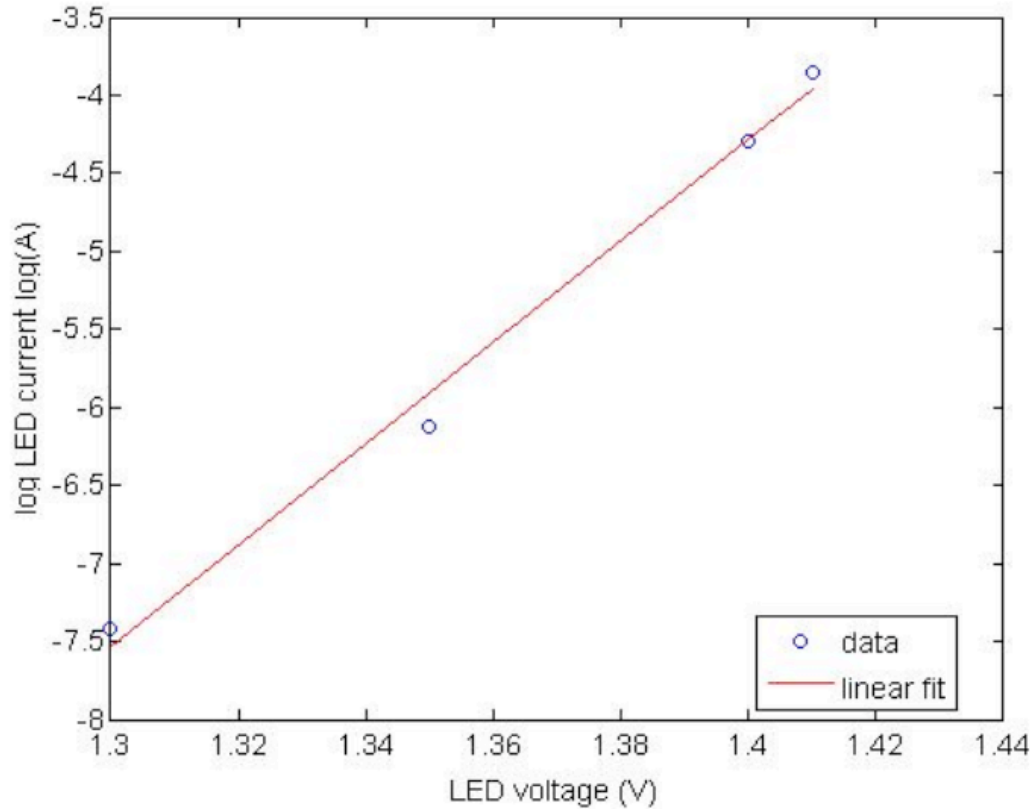

Fig. 1. Linear Regression fit of $\ln(i)$ vs V for LED.
Table II lists the values of $\ln(i)$ versus v , and Fig. 1 (in Section 2.3) shows a plot of this data.
The Matlab™ script "polyfit_diode.m" in Appendix A finds the values of a_0 and a_1 that give the best fit, (in the least-squares sense), of the data in Table I to the line described by (4). Tables III and IV show the numerical results, and Fig. 1 shows a plot of the results. The differences between measured and modeled values are on the order of 10 percent.